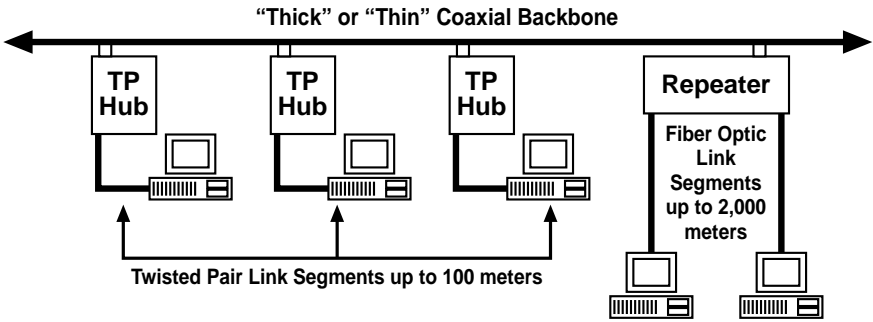

Figure 3-30. Backbone Structure.
3. When a network path consists of five segments and four repeaters, up to three of the segments may be coaxial and the remainder must be either twisted-pair or fiberoptic cable (link segments) (**Figure 3-30**).